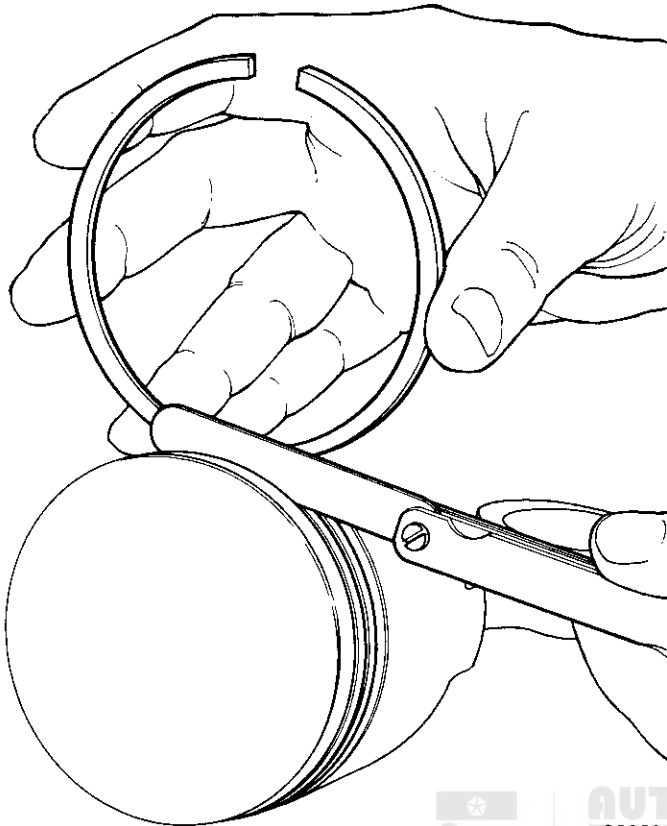

Fig. 1B-97 Ring Side Clearance Measurement
(1) Clean carbon from all ring grooves. Be sure oil drain openings in oil ring grooves and pin boss are open.
(2) Check ring side clearance with feeler gauge fitted snugly between ring land and ring. Roll ring around groove in which it is to operate. It must fit freely at all points (fig. 1B-97). Refer to Specifications for correct ring side clearance.
(3) Place ring in bore. Use inverted piston to push ring down near lower end of ring travel area. Measure ring gap or joint clearances with feeler gauge fitted snugly in ring opening (fig. 1B-98).